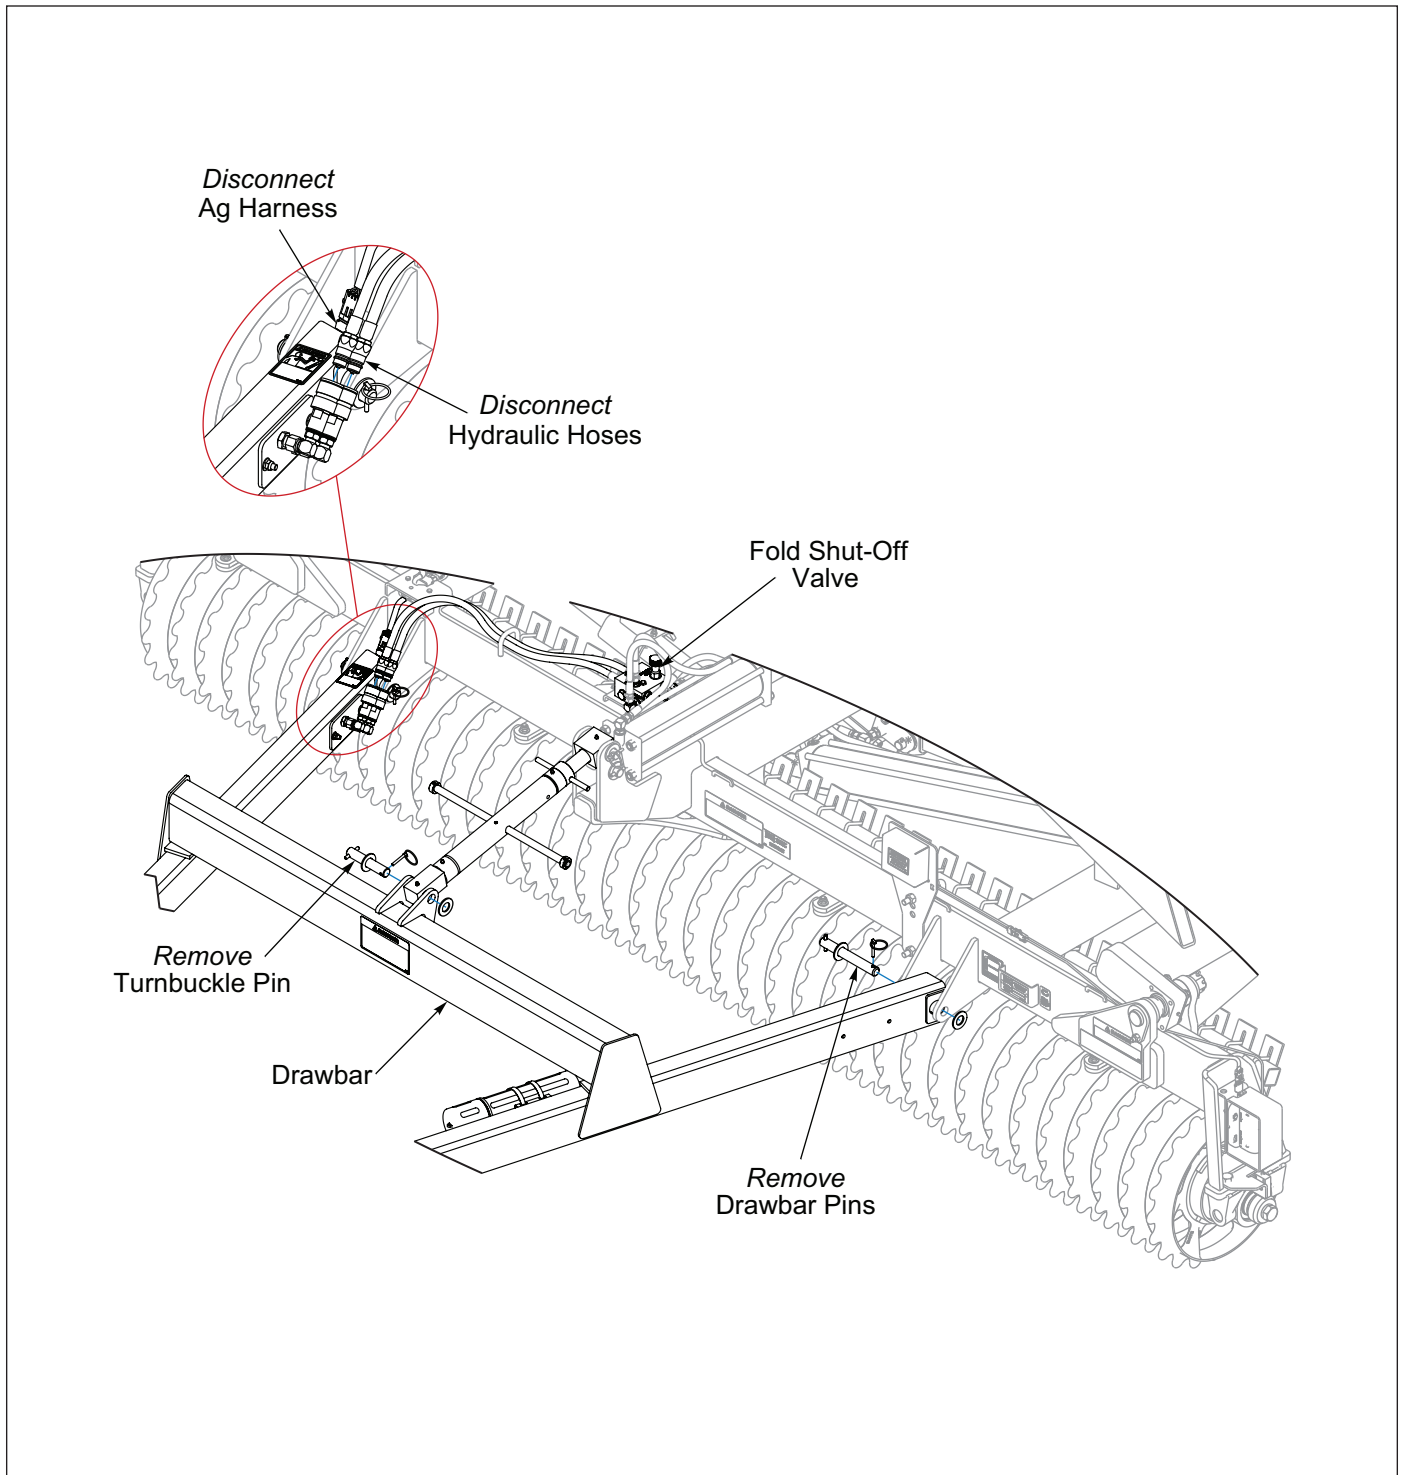

Figure 3-11: Drawbar Removal for Transport
1. With the Wing Float Pulverizer fully raised and wings folded, close the Fold Shut-off Valve completely. **See Figure 3-11.**